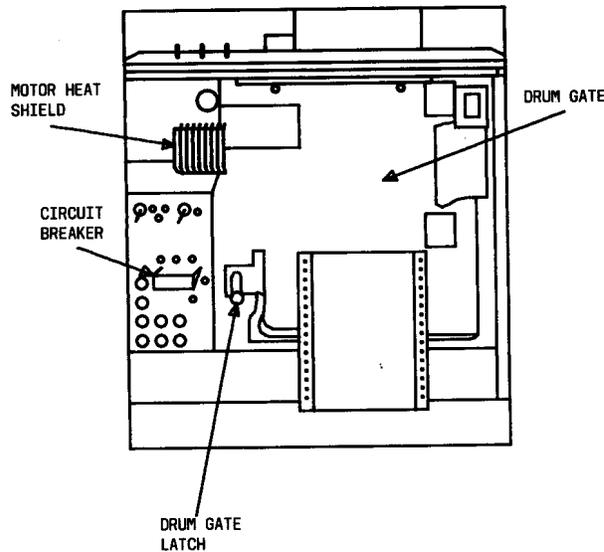

Fig. 7—Inside the HP Line Printer (For Changing Ribbon)
**2.31** Follow the procedure in Chart 7 to change the ribbon in the HP line printer. Refer to Fig. 7, 8, and 9 when using this chart.